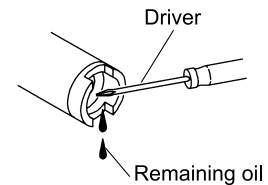

Fig. 8
- 4) The oil can be drained by pushing open the foot valve section inside, using a screwdriver, etc. (Fig. 8)